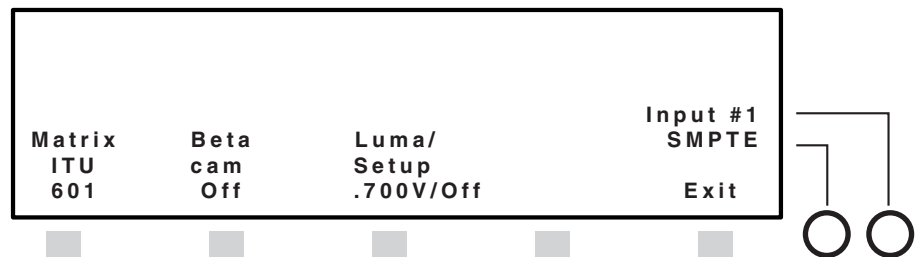

Figure 3-7 — Input configuration menu
3. Using the right adjustment knob, select the input (figure 3-7). Both the program and preview outputs will display the selected input for adjustments.
4. Using the left adjustment knob, select the video type: RGB, SMPTE, YUV HDTV, BETA 60, or BETA 50 (figure 3-7).
- Depending on the input type, color matrix, Beta-cam control, and Luma/Setup control can be set by pressing the button below each control (figure 3-7). Color matrix control may be set to either the ITU 601 or ITU 709 standard, Beta-cam control may be set on or off, and Luma/Setup control may be set to either .700V or .714V, on or off.